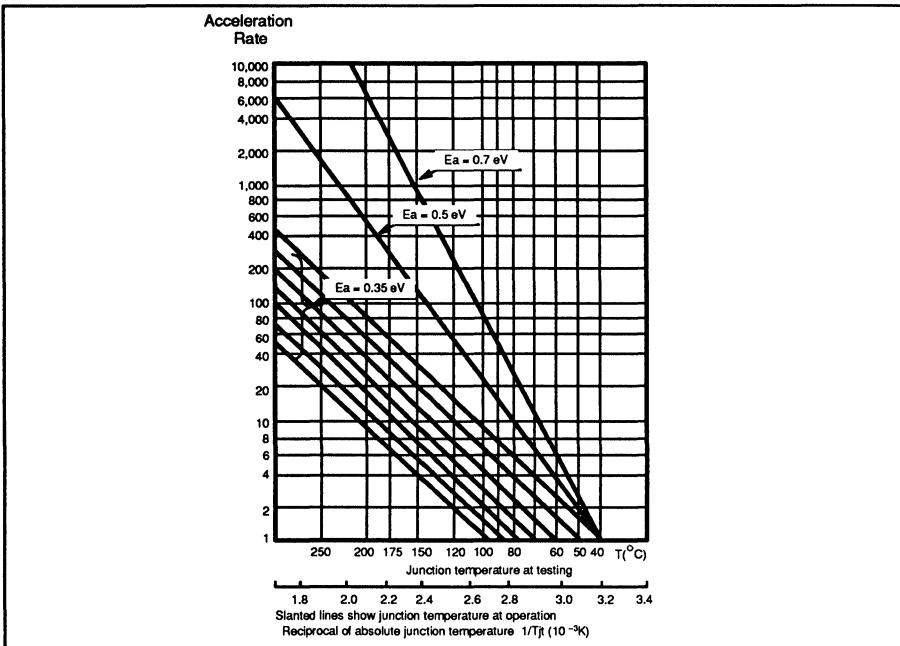

Figure 6-4. Acceleration Rate vs. Junction Temperature
- (3) Calculate the acceleration rate (α) from the difference of $T_j(\text{op})$ and T_{jt} using Figure 6-4.